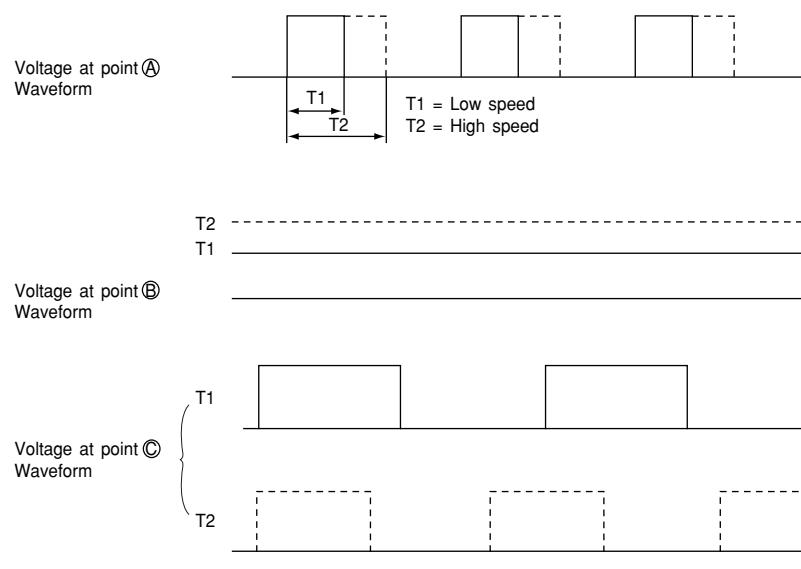

Fig. 7-2
- For the point A, 15.7 kHz PWM pulse will be output from the pin ② on the micro computer as shown in Fig. 7-2. The pulse range will vary with different command speed.